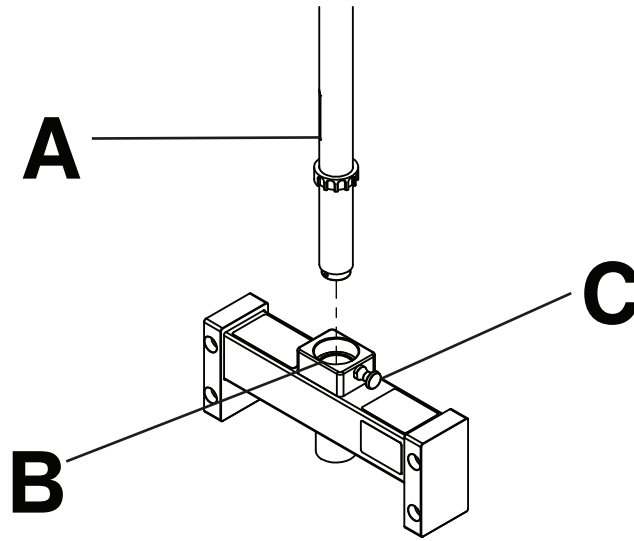

Figure 18 – Attaching or removing the patient helper
1. Insert the lifting pole (A) into the mounting bracket (B) (Figure 18).
2. Rotate the lifting pole in the mounting bracket until the patient helper knob (C) locks in position (Figure 18).